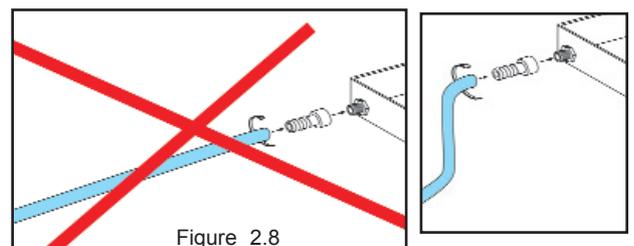

Figure 2.8
- 3 - the connection of the condensation drainpipes (figure 2.8 - page 8);